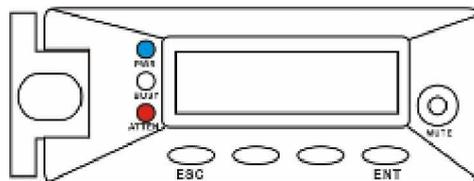

Figure 3-1: LCD Panel
The LCD keypad panel shown in **Figure 3-1** consists of five (5) push buttons, three (3) LEDs, and a 16-character x 2-row LCD screen that indicates controller statuses. Press the **ENT** button for two (2) seconds on the initial screen to enter the main menu. Press the **ESC** button to clear the current event.